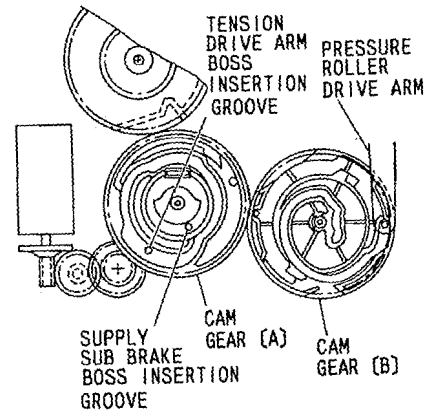

Fig. 4-25
- 3) Check that the bosses of the supply sub brake and tension drive arm are inserted into the specified positions. (See Fig. 4-25)
- 4) Check that the boss of the pressure roller drive arm is inserted into the groove in the cam gear [B]. (See Fig. 4-25)